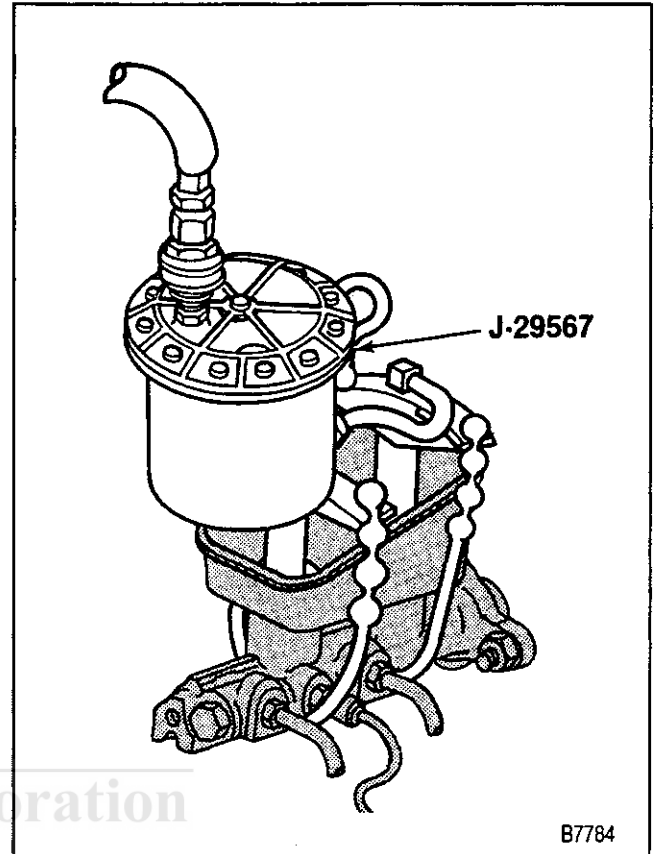

Figure 15—Reservoir Bleeder Adapter
4. Install the bleeder adapter (figure 15).